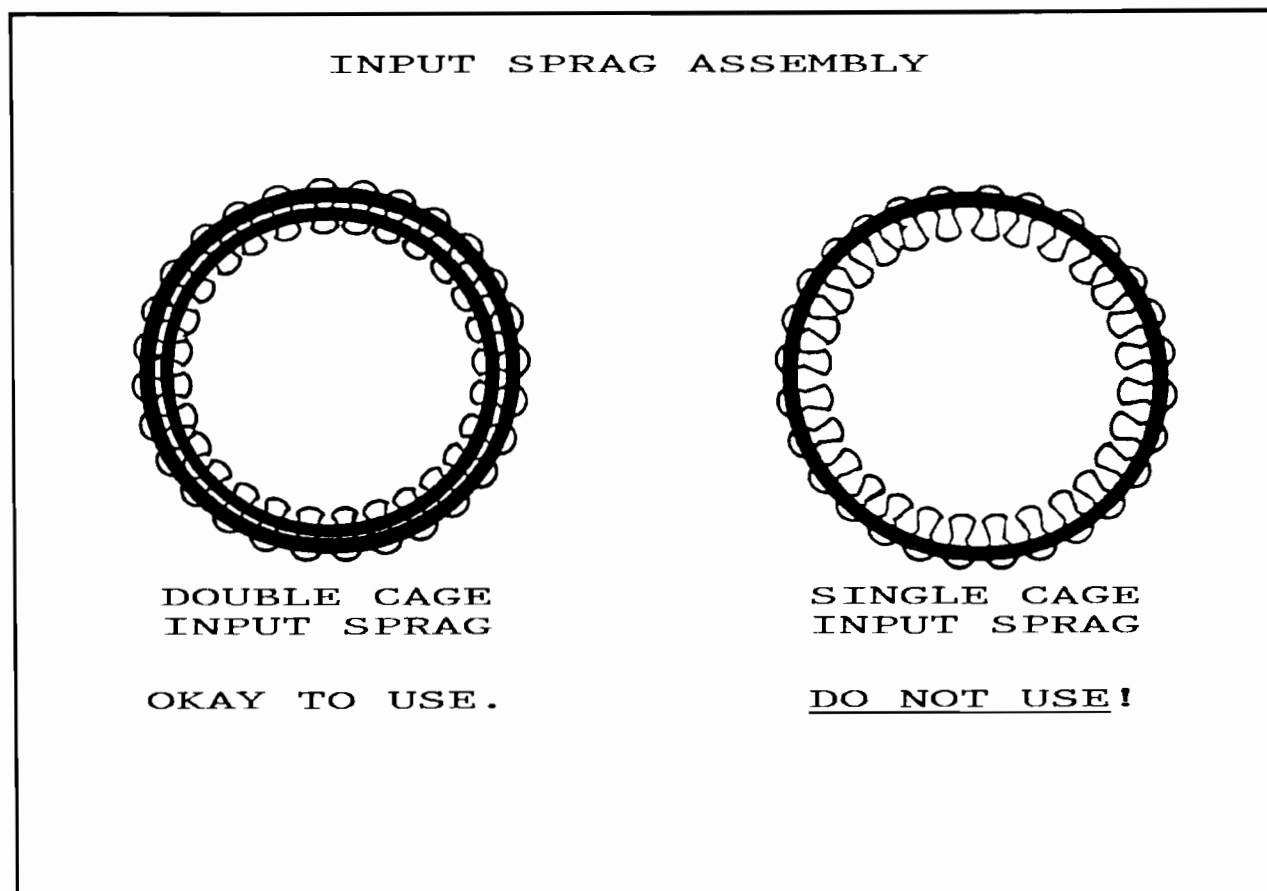

Figure 19
**CORRECTION:** Install an input sprag manufactured by BORG-WARNER. The sprags are easy to identify, as the SKF sprag Does Not use an inner cage and the BORG-WARNER sprag Does use an inner cage, as shown in Figure 19.